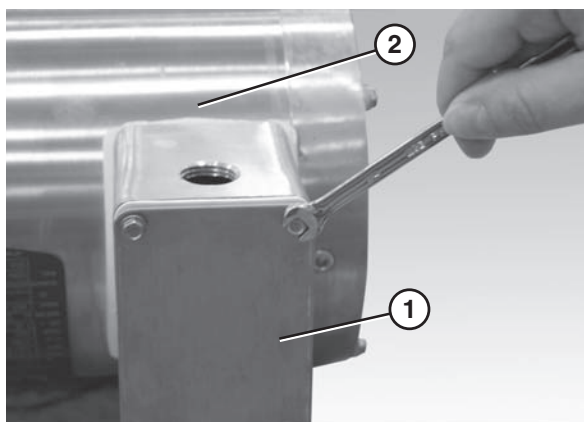

Figure 30
1. Loosen the screws and remove the cover (Figure 30, item 1) from the junction box located on the side of the motor (Figure 30, item 2).